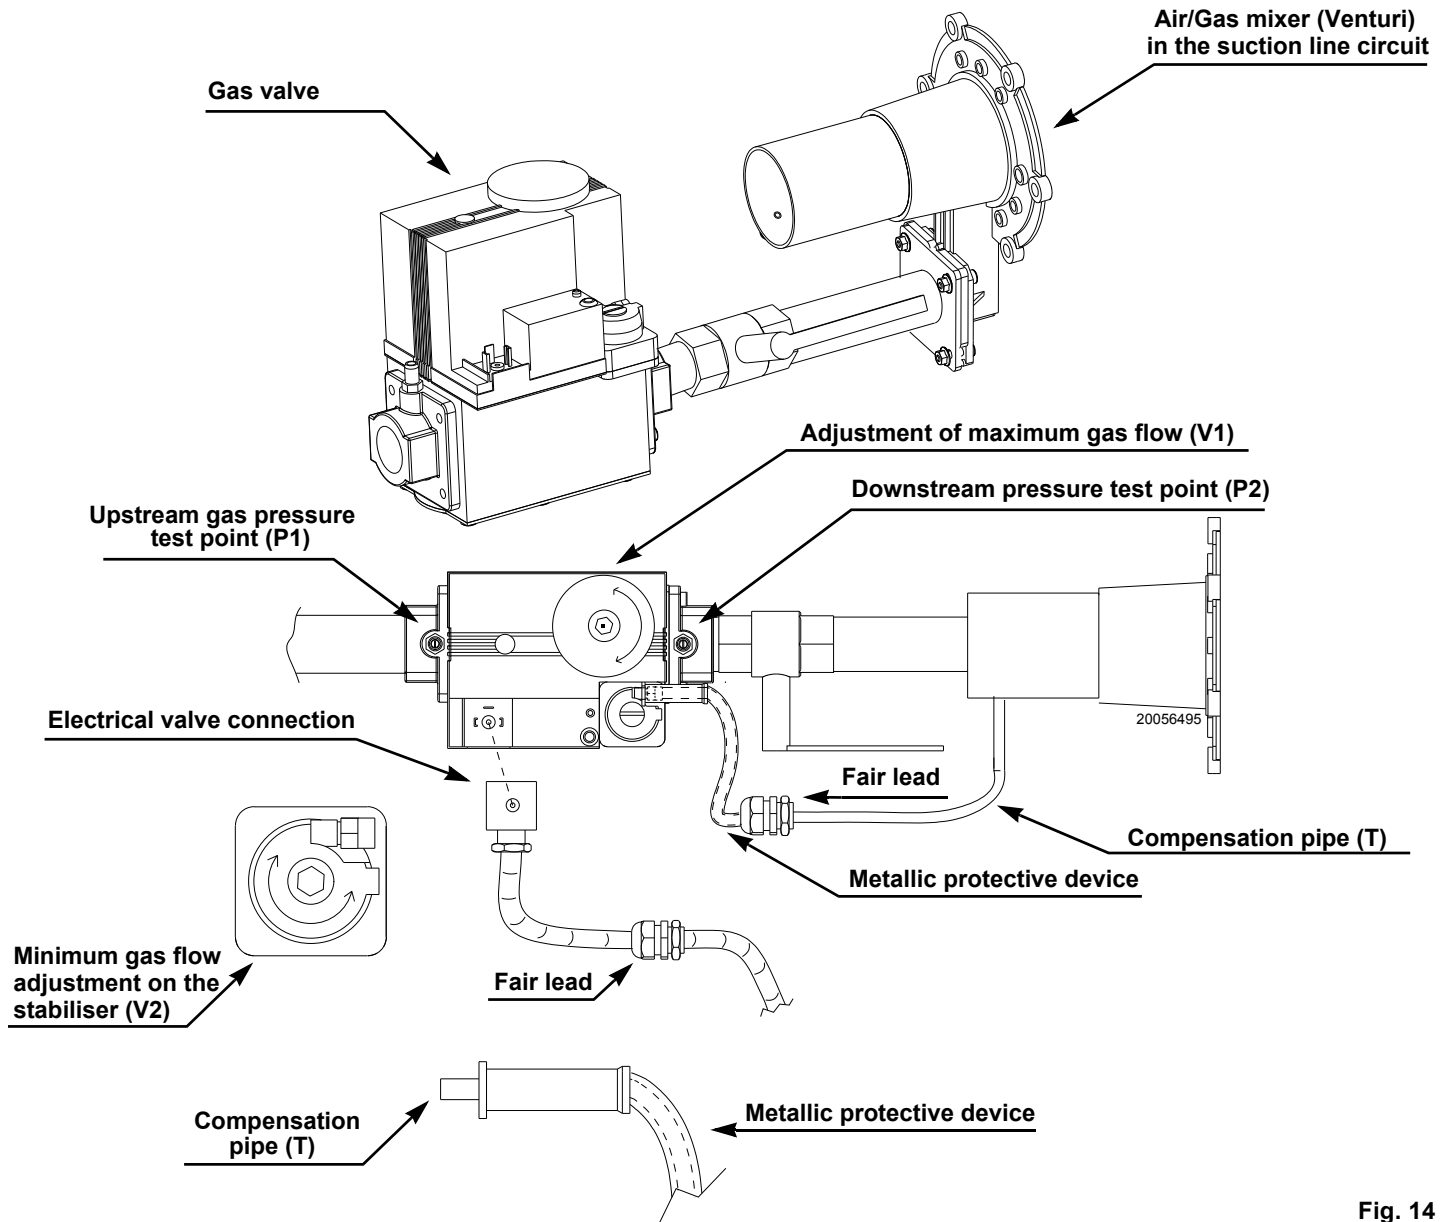

Fig. 14
- bleed the air from the gas pipes using the screw on the socket (Fig. 14, page 21).